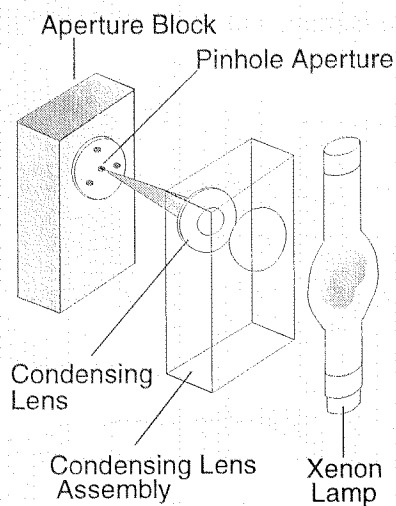
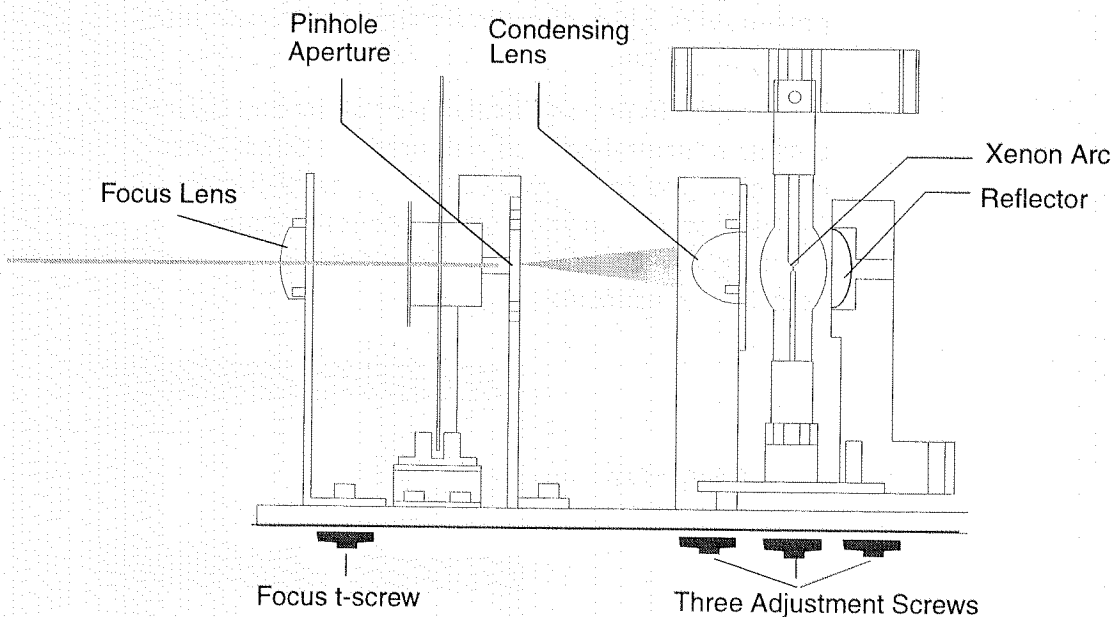

Figure 2.14.
Figure 2.15. emulator Optics – Side View
The xenon lamp used in the *emulator* Fixture is a *short-arc xenon lamp*. The entire light output of this powerful lamp occurs within a very small arc created by two electrodes located in the center of the pressurized quartz envelope of the lamp. This brilliant “arc”, similar to a welder’s arc, must be positioned correctly in front of the condenser. You achieve this correct positioning through a process called *Optimization*. This is accomplished by turning the three adjustment *t-screws* located under the lamp base to create the brightest possible point of light over the pinhole aperture. Refer to Figures 2.14 and 2.15. To achieve a sharp-edged circle of light which is strong and even across the beam, it is equally important to adjust the focus *t-screw* found near the front end of the fixture under the focus lens. Refer to Figure 2.15. The intense point of light at the pinhole aperture is then concentrated to create the familiar laser-like effect that the fixture can achieve. **If the point of light is even slightly off, the difference in the final output intensity of the *emulator* Fixture can be significantly reduced. The optimization process is the most crucial setup adjustment for the *emulator* Fixture.** If you feel you are having difficulty with the optimization process, or would like further assistance, please contact your High End System Dealer or HES Service at (512) 837-3063).